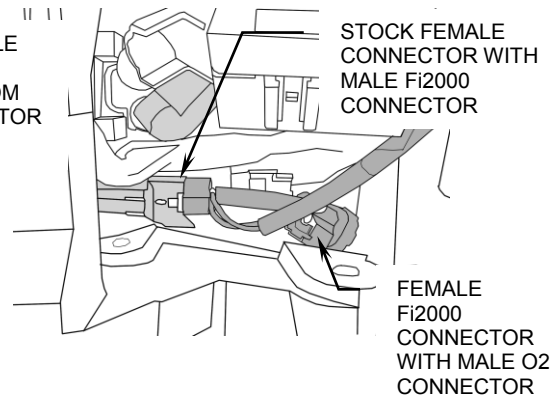

FIGURE 4
6. Feed the female oxygen sensor connector and harness from the Fi2000 down to the stock male oxygen sensor connector, and connect the two. Now connect the male Fi2000 oxygen sensor connector to the stock female oxygen sensor connector, see Figure 4, once this has been done reinstall the fuse block onto its mounting tab.
Your Cobra® Fi2000 fuel injection module has been tested and preset for best function and rideability on a motorcycle with aftermarket aircleaner and Cobra exhaust. The Fi2000 does however, have 3 important adjustments that allow you to tune the module for optimum performance, especially if you have performed other changes to your motorcycle. These adjustments also allow you to resolve drivability issues if our stock settings are not exactly right for your bike. Make sure your motorcycle is up to normal operating temperature (15 minutes of riding should be sufficient) before making any adjustments. Remove the door to expose the pots shown in Figure 4.